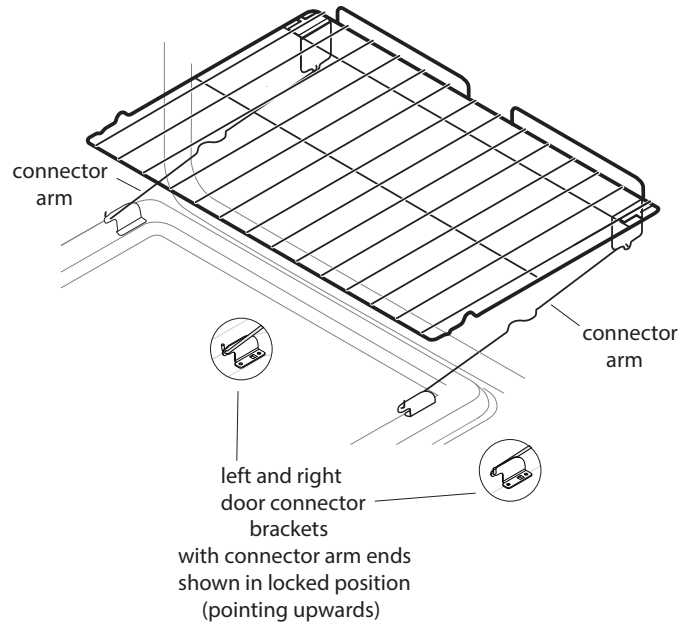

Figure 21: Effortless™ oven rack after assembly
7. Once both connector arms are properly in place, be sure to test the oven rack operation by gently closing the oven door. The oven rack should move in and out of the oven freely when the door is opened or closed. (See Figure 21)